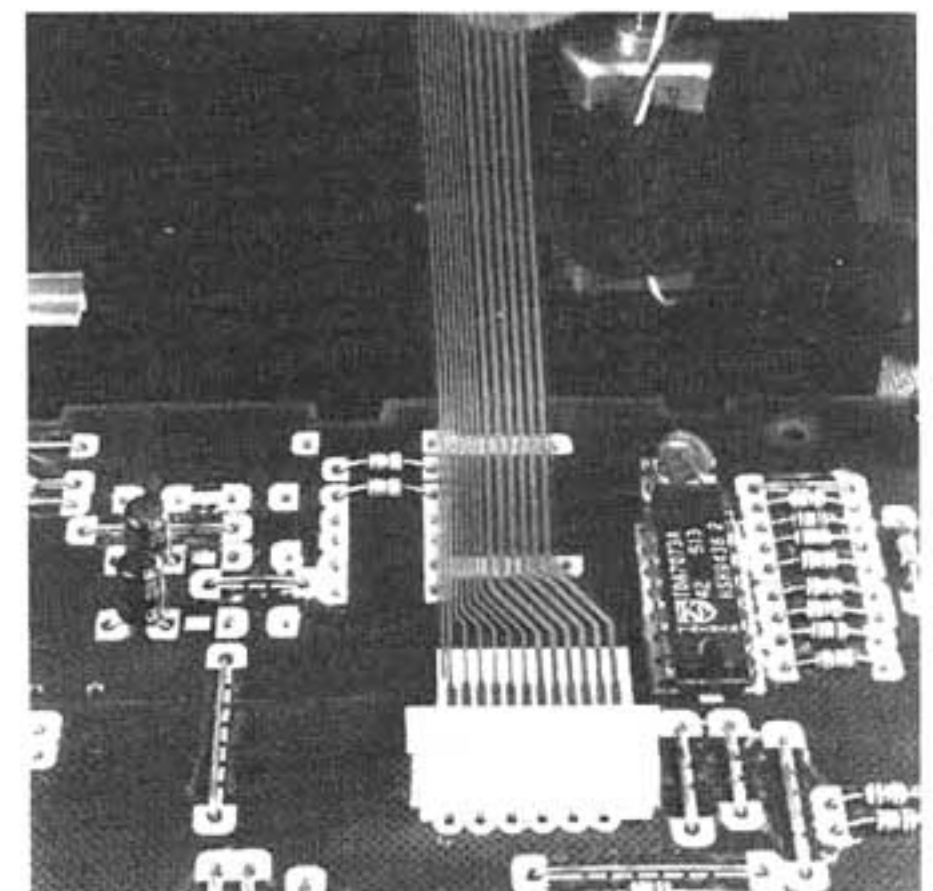

fig.3
8. Connect new flexfoil to print connector (fig.3)